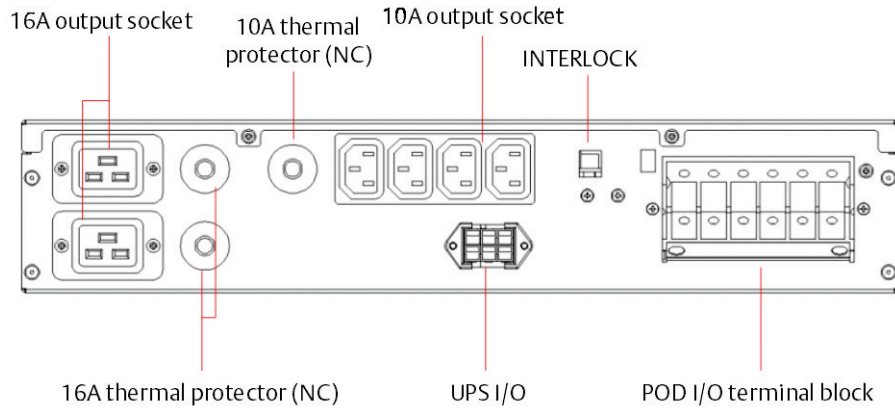

Figure 1-3 Rear panel of the single POD
The rear panel of the single POD is shown in Figure 1-3.
<p>Note</p> <p>1. The 10A output sockets (see Figure 1-3, one piece, specification: C13). The load capability of each 10A output socket is 10A, and the load capability of each row of the 10A output socket is also 10A.</p> <p>2. The 16A output sockets (see Figure 1-3, totally two) are 1-phase 3-core sockets. The load capability of each 16A output socket is 16A, and the total load capability of the two 16A output sockets is also 16A.</p>
1. The 10A output sockets (see Figure 1-3, one piece, specification: C13). The load capability of each 10A output socket is 10A, and the load capability of each row of the 10A output socket is also 10A.
2. The 16A output sockets (see Figure 1-3, totally two) are 1-phase 3-core sockets. The load capability of each 16A output socket is 16A, and the total load capability of the two 16A output sockets is also 16A.